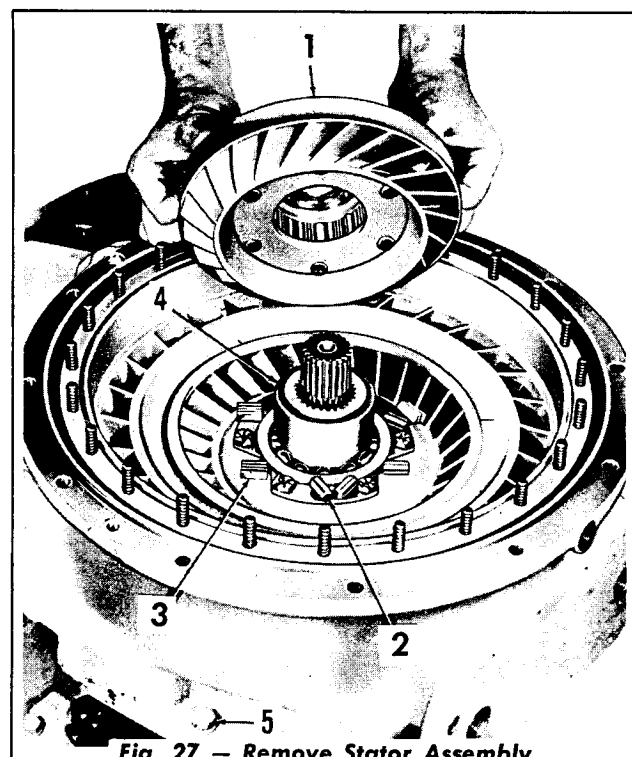
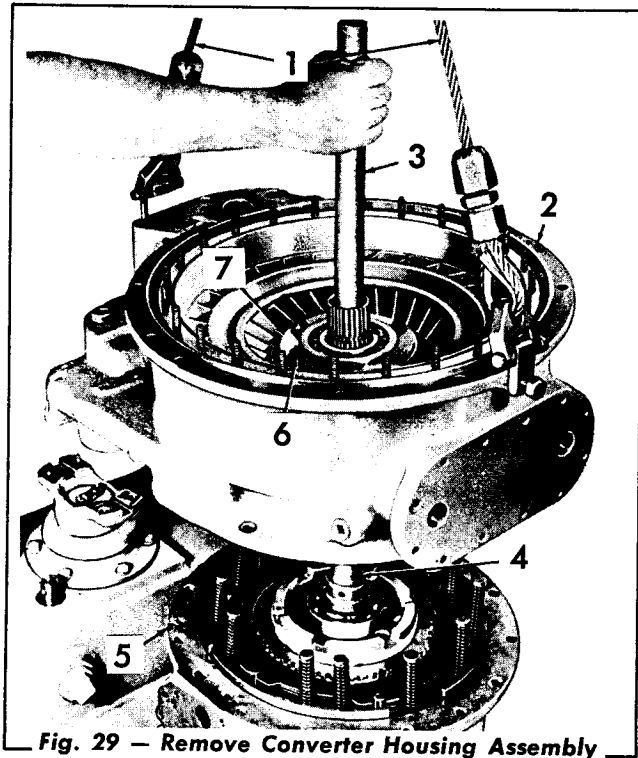

Fig. 27 - Remove Stator Assembly
Fig. 29 — Remove Converter Housing Assembly
- 2. Internal-Splined Spacers (2)
11. Remove the stator assembly (Fig. 27), the ten freewheel rollers and the ten freewheel roller springs. Remove the freewheel roller race.
13. Remove the capscrews and lockwashers (Fig. 27) from the converter housing. Attach a lifting sling (Fig. 29) to the converter housing and raise the assembly. Use a drift to prevent the converter shaft from rising. Remove the gasket. Remove the self-locking capscrews, the two lock strips and the three bearing retainers.